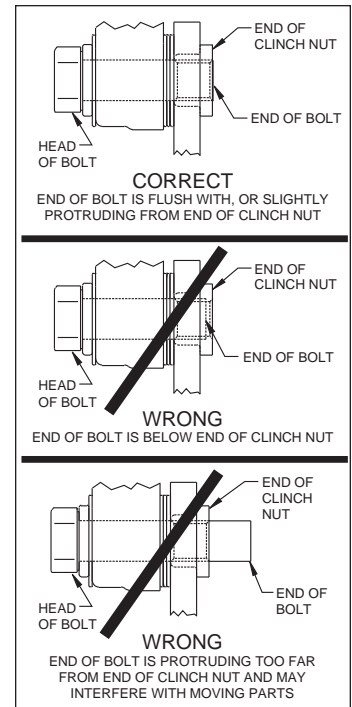

Figure 5. Clinch Nut Engagement Diagram
CAUTION: All mounting bolts must fully engage clinch nuts. Be sure to check that all bolts are either flush or protruding through flanged side of clinch nut after shimming, Figure 5.
•**NOTE:** Please reference the caution statement at the beginning of the assembly instructions. Remount the service caliper (12) onto the caliper mounting bracket (3) using bolts (13) and washers (14), as shown in Figure 1. Initially place two .035" thick shims (15) on each bolt between the caliper and the bracket, Photo 9. Temporarily tighten the mounting bolts and view the rotor (11) through the top opening of the caliper. The rotor should be centered in the caliper, Photo 10. If not, adjust by adding or subtracting shims (15) between the bracket (3) and the caliper (12). Always use the same amount of shims on each of the two mounting bolts. **NOTE:** The end of each bolt must be flush with or slightly protruding from the head of the clinch nut, as shown in Figure 5. If necessary place spare shims (15) between washer (14) and caliper mounting ear to achieve the proper clinch nut engagement. Once the caliper alignment and clinch nut engagement are correct, remove the bolts one at a time, apply red *Loctite*® 271 to bolt threads, and torque to 40 ft-lb.